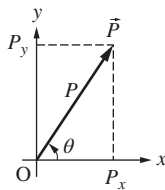

Figure P4.9 A position vector for problem P4-9.
- 4-9.** The x - and y -components of a vector \vec{P} shown in Fig. P4.9 are given as $P_x = 6$ cm and $P_y = 8$ cm. Find the magnitude and direction, and write the vector \vec{P} in its rectangular and polar forms.